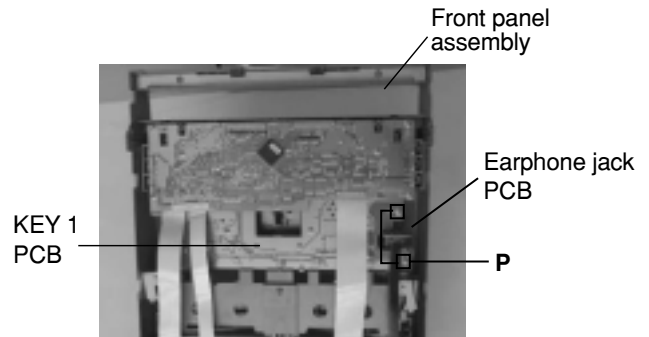

Fig.20
■ Removing the earphone jack PCB (See Fig.20)
(See Fig.20 to 23)
4. Remove eleven screws **R** retaining the switch (key 1) PCB.(Fig.20)